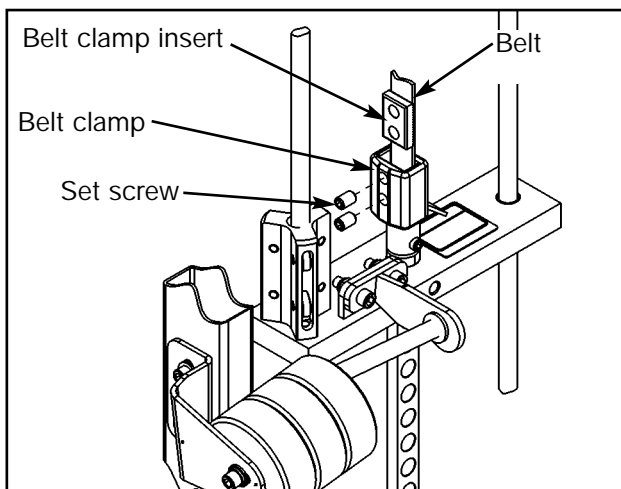

Figure 8
- F. Pull belt tight and secure belt to clamp with the two set screws. See Figure 8.